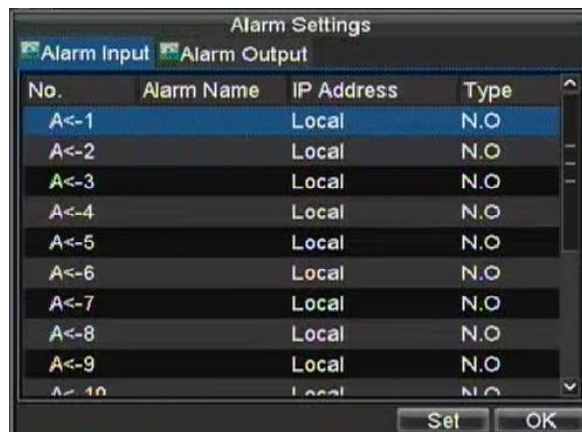

Figure 5. Alarm Management Menu
1. Enter into the Alarm Management menu by navigating to Menu > Setting > Alarm, shown in Figure 5.